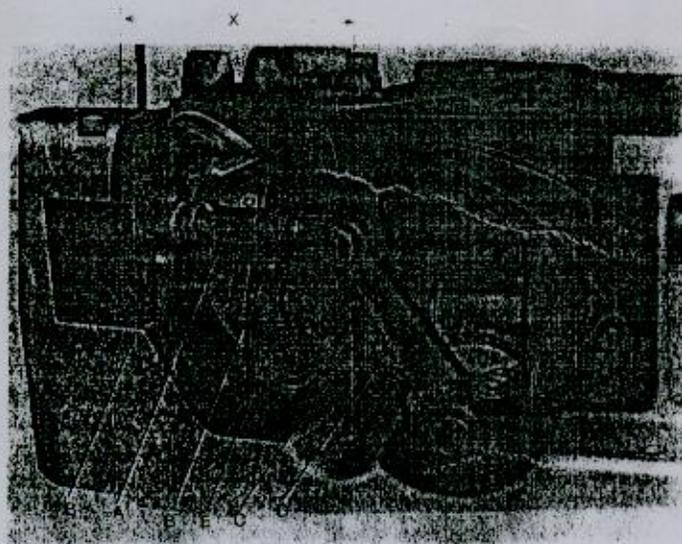
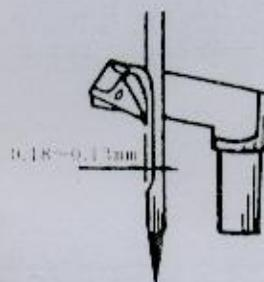

Fig. 4
Fig. 6
(1). First set the looper connecting rod (A, Fig. 4), so the distance (X, Fig. 4) between the center lines of the two ball joints is 69.8mm (2 3/4in.). For adjustment loosen the two nuts (B) and turn connecting rod (A) forward or backward as required to obtain specified dimension. Retighten nuts (B). Caution: The left nut has a left hand thread.
(3). Rotate the machine pulley so that the looper moves from right to left. The looper point should pass as close as possible to the back of the needle without contacting, and clearance is 0.08-0.13mm (.003 to .005 in.) (Fig. 6). For adjustment, loosen screw (D, Fig. 4) in the looper eccentric fork (E) and turn rocker shaft (E) on the looper rocker with looper forward or backward as required. Retighten screw (D).